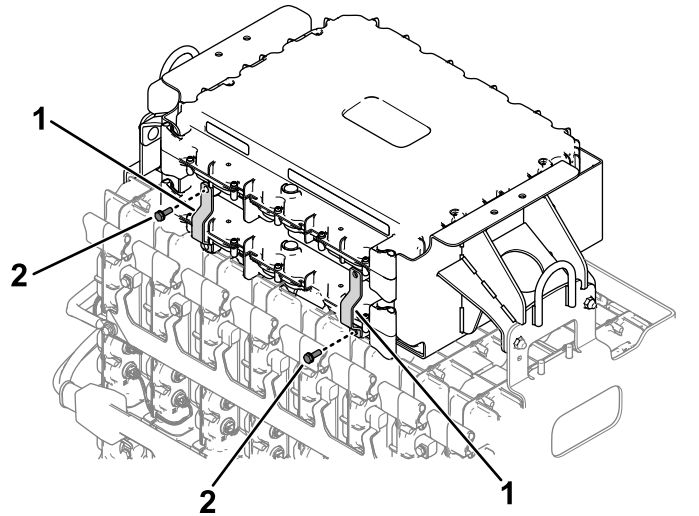
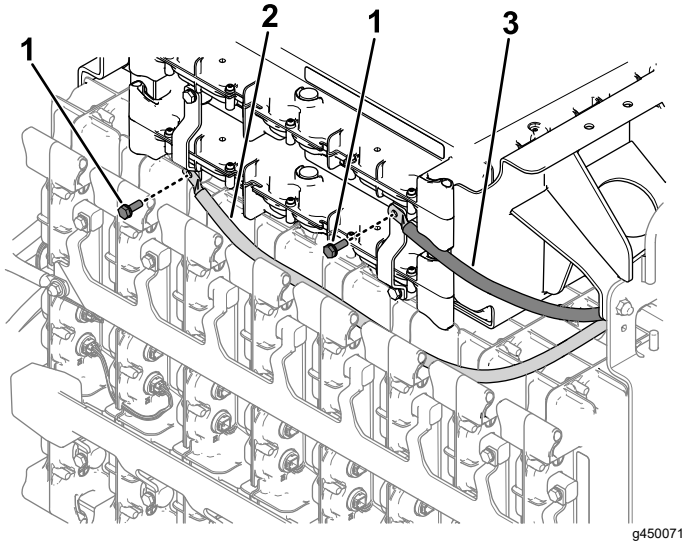
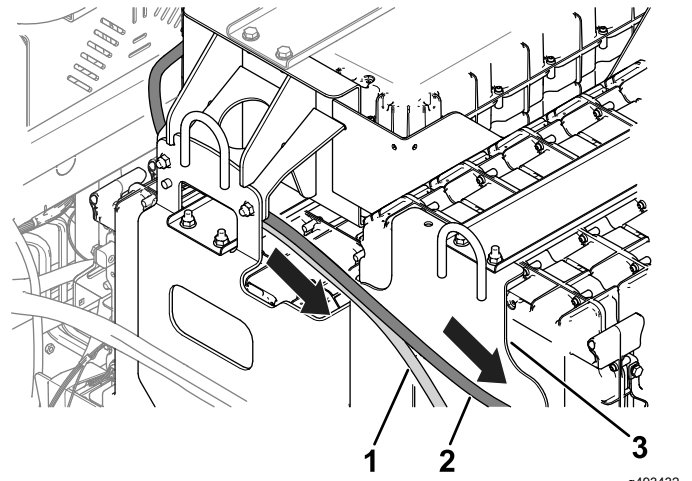

Figure 3
Figure 4
Figure 5
2. Use 2 hex-head bolts (1/4 inch) to loosely secure the bus bars to the batteries (Figure 3).
3. Use 2 hex-head bolts (1/4 inch) to connect the red and black battery cables to the bus bars that you installed in the previous step (Figure 4).
4. Verify that the bus bars are seated properly and torque the hex-head bolts (Figure 3 and Figure 4) to 11 N·m (95 in-lb).
5. Route the battery cables toward the rear battery tray as shown in Figure 4 and Figure 5.